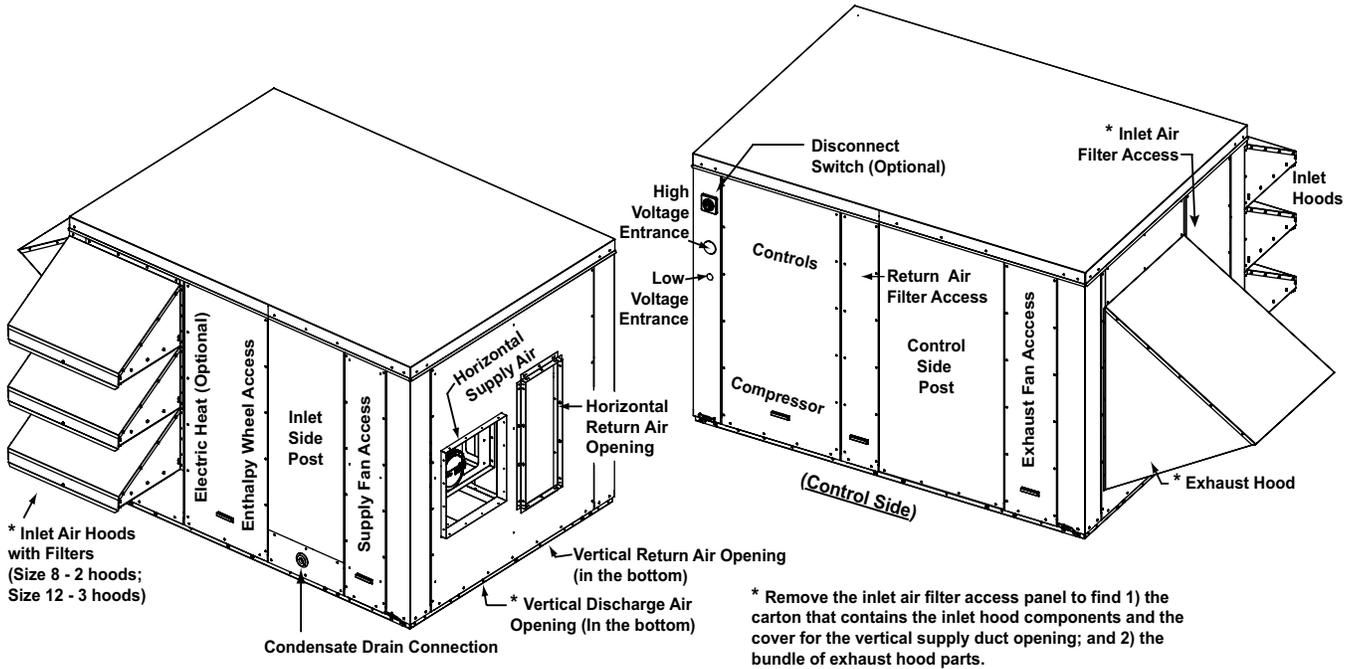

Figure 9. Mechanical Connections
Instructions for making mechanical connections (see Figure 9), which include inlet air and exhaust hoods, inlet and exhaust dampers, ductwork, and the condensate drain, are found in the following paragraphs.
All model ZQYRA ventilation units require field-installation of the inlet air hood and the exhaust hood. All hood components plus the vertical supply duct cover are shipped inside the cabinet. Remove the inlet filter access panel (see Figure 9) and find a carton and a bundle of parts. First, slide out the carton and then remove the bundle of parts that is attached to brackets. **DO NOT** remove the brackets or the carton stop. The bundled parts and the screws in the hardware bag in the carton are used to install the exhaust hood.
- **Installation using horizontal ductwork:** See Figure 9 for the locations of the horizontal duct openings (dimensions are shown in Figure 8). Remove the cover from the horizontal return air opening and relocate it to cover the vertical return air opening in the bottom of the cabinet. Remove and discard the cover from the horizontal supply (discharge) air opening. In the carton with the hood parts (refer to Unpacking Inlet Air and Exhaust Hood Components section), find the cover for the vertical supply air opening. Install the cover to close the vertical supply air opening.